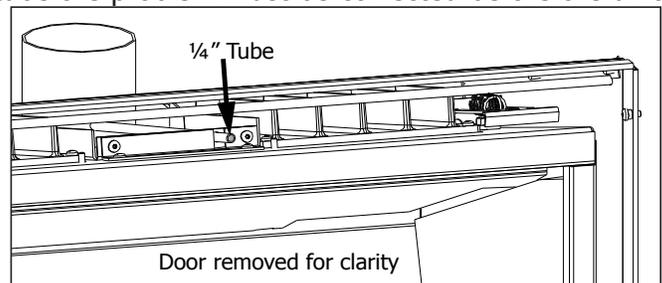

Figure 28: Draft check.
The draft hood must be in the same pressure zone as the air inlet. Inspect for draft from the front of the unit at the 1/4" tube (shown in Figure 28). Note that when the door is installed the tube is not visible when looking straight at the unit. Check for a draft using smoke; a vacuum or suction into the tube will indicate proper drafting. If air is blowing out of the tube the problem must be corrected before the unit can be started.
- b) Using a T-20 screwdriver remove the screw that is in the draft tube pointed at in Figure 28.